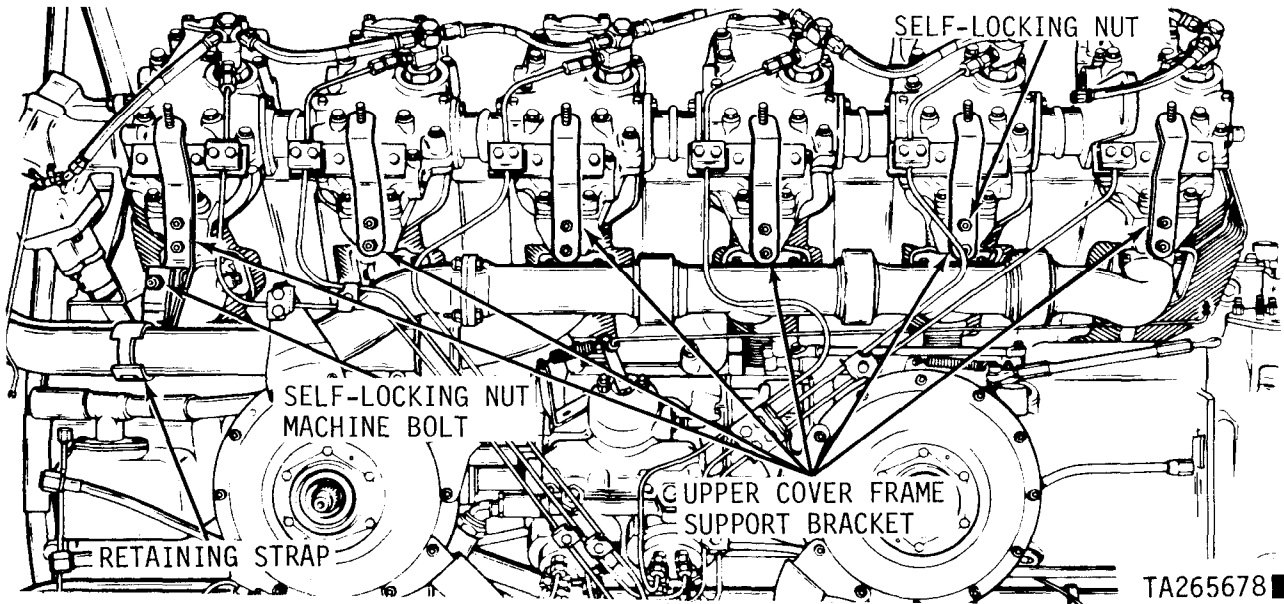

Figure 3-20. Removing or installing right upper cover frame support brackets.
a. Upper Cover Frame Support Brackets. Remove self-locking nut and machine bolt (fig. 3-20) and remove exhaust elbow retaining strap. Remove twelve self-locking nuts (fig. 3-20) attaching upper cover frame support brackets to cylinders